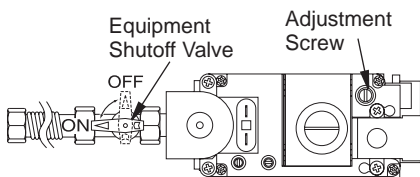

Figure 48 - Turning Equipment Shutoff Valve to the OFF Position
5. Turn equipment shutoff valve clockwise  to the OFF position (see Figure 48). Do not force.
6. Wait five (5) minutes to clear out any gas. Then smell for gas, including near the floor. If you smell gas, STOP! Follow "B" in the safety information in column 1. If you don't smell gas, go to the next step.
- Turn the adjustment screw marked PILOT clockwise to decrease or counterclockwise to increase the flame to proper size (see Figure 48, page 28). Do not remove the adjustment screw.